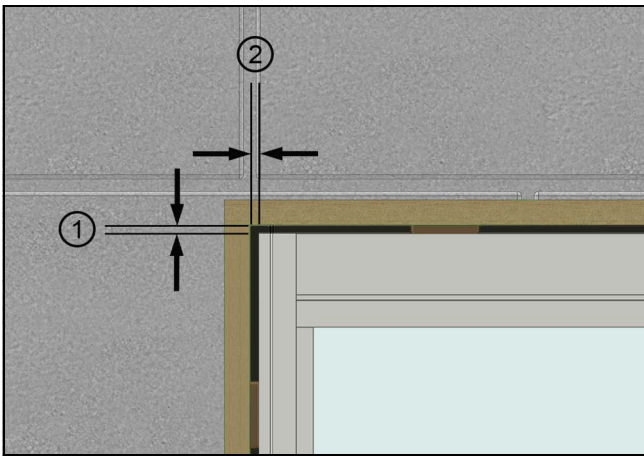

Figure 5
**5.** Masonry Openings (MO) for flanged windows should be 1" greater than outside frame (flange) measurement. The Rough Opening (RO), with or without a wood buck, should result in a 1/2" overall shim space, 1/4" per side. Size the Masonry Opening (MO) accordingly, based on the wood buck specifications. When framing a rough opening, ensure the sill plate is level and the opening is square, straight, and plumb. See Figure 5.